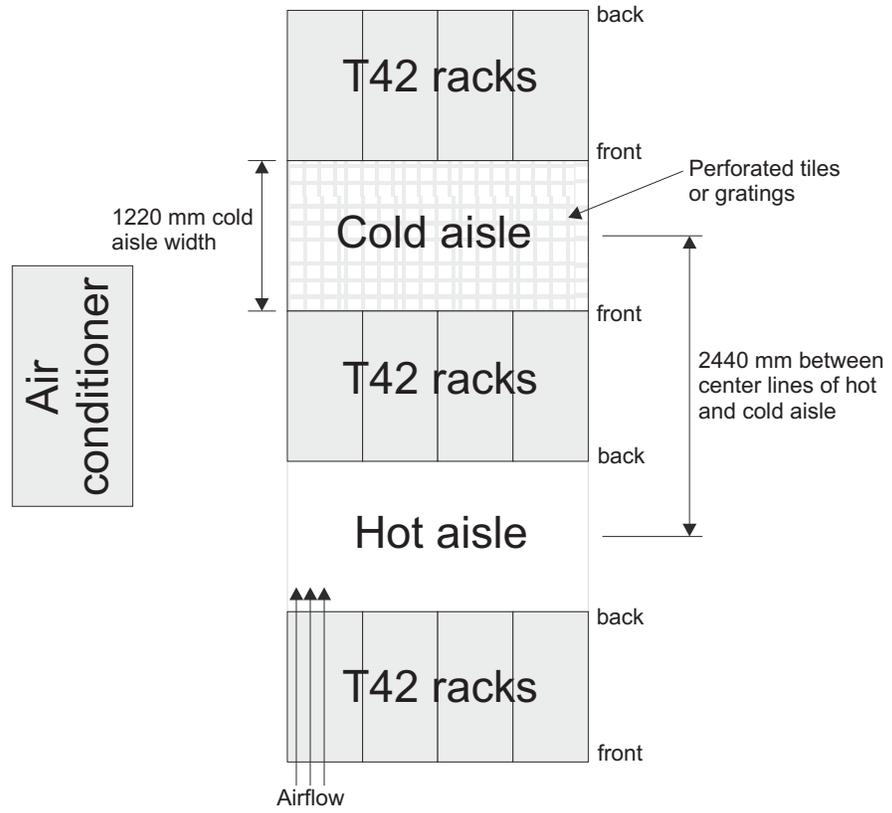

Figure 9. Example of cold aisle/hot aisle rack configuration
- Air enters at the front of the rack and leaves at the back. To prevent the air that is leaving the rack from entering the intake of another piece of equipment, you must position the racks in alternate rows, back-to-back and front-to-front. This arrangement is known as “cold aisle/hot aisle” and is shown in Figure 9 on page 21.